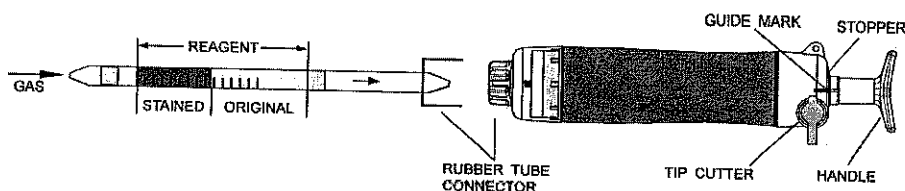

Fig.1
- ① Break both ends of detector tube.
- ② Insert the detector tube into aspirating pump securely as shown in Fig.1. (Arrow mark shall point to the pump.)
- ③ Align the guide marks on the shaft and stopper of the aspirating pump.
- ④ Pull the pump handle at full stroke until it locks and wait for 1.5 minutes or until the completion of sampling is confirmed with the flow indicator of the pump (See descriptions about the flow indicator in the instructions of the pump).
- ⑤ On completion of sampling, read the scale at the maximum point of the stained layer.